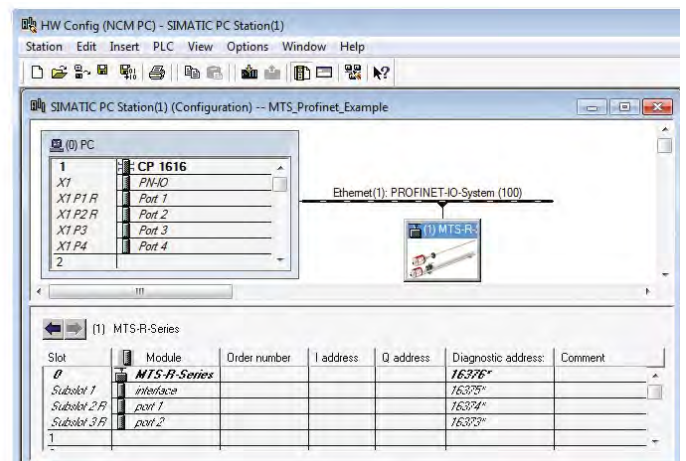

Fig. 63: Add sensor to the network (source: Siemens)
- Select for U402 profile the file "MTS R-Series firmware version 1.0". Drag and drop this file from the directory into the network (dashed line). The sensor has been added to the network (Fig. 63).